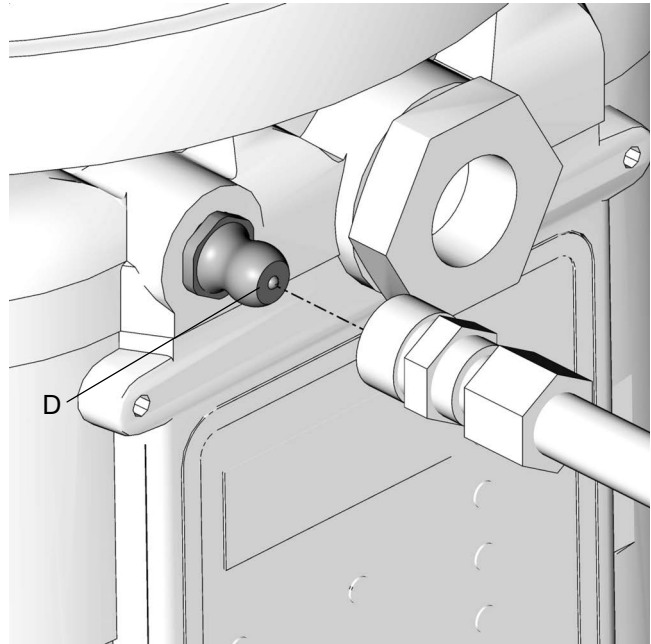

FIG. 13
- Always clean the fitting (D) (FIG. 13) with a clean dry cloth prior to filling the reservoir. Dirt and/or debris can damage the pump and/or the lubrication system.
1. Connect the fill hose to the Zerk inlet fill fitting (FIG. 13)
2. Connect the fill hose to the zerk inlet fill fitting (see FIG. 13).
1. Connect the fill hose to the inlet fittings (see FIG. 13).